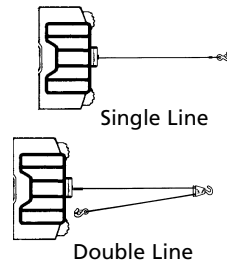

Figure 2
1. Maximum working load capacity is on the wire rope layer closest to the drum. **DO NOT OVERLOAD. DO NOT ATTEMPT PROLONGED PULLS AT HEAVY LOADS.** Overloads can damage the winch and/or the wire rope and create unsafe operating conditions. **FOR LOADS OVER 1,000 POUNDS (454 kg), WE RECOMMEND THE USE OF THE OPTIONAL PULLEY BLOCK TO DOUBLE LINE THE WIRE ROPE (Figure 2).** This reduces the load on the winch and the strain on the wire rope by approximately 50%. Attach hook to load bearing part. **The vehicle engine should be running during winch operation.** If considerable winching is performed with the engine off, the battery may be too weak to restart the engine.